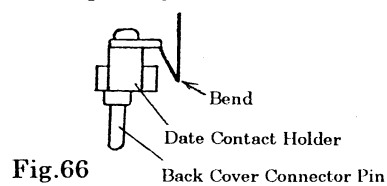

Fig.66
- 5) Bend the Body Connect FPC as shown in Fig. 66.